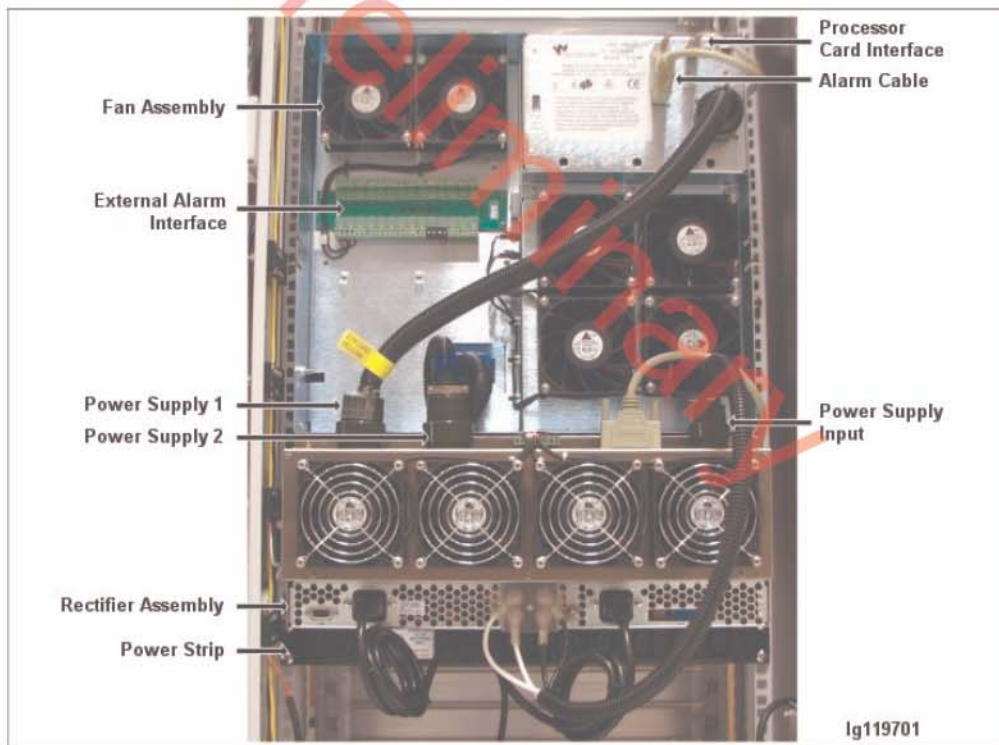

Figure 1-14: Micro Subrack and Power Supply Assembly Rear View
- The power supply subrack assembly power cables are connected to the Micro subrack assembly. See Figure 1-14, Power Supply Cable 1 and Power Supply Cable 2.
Figure 1-14 shows the location of the following components from the rear view of the Micro subrack assembly and power supply assembly: